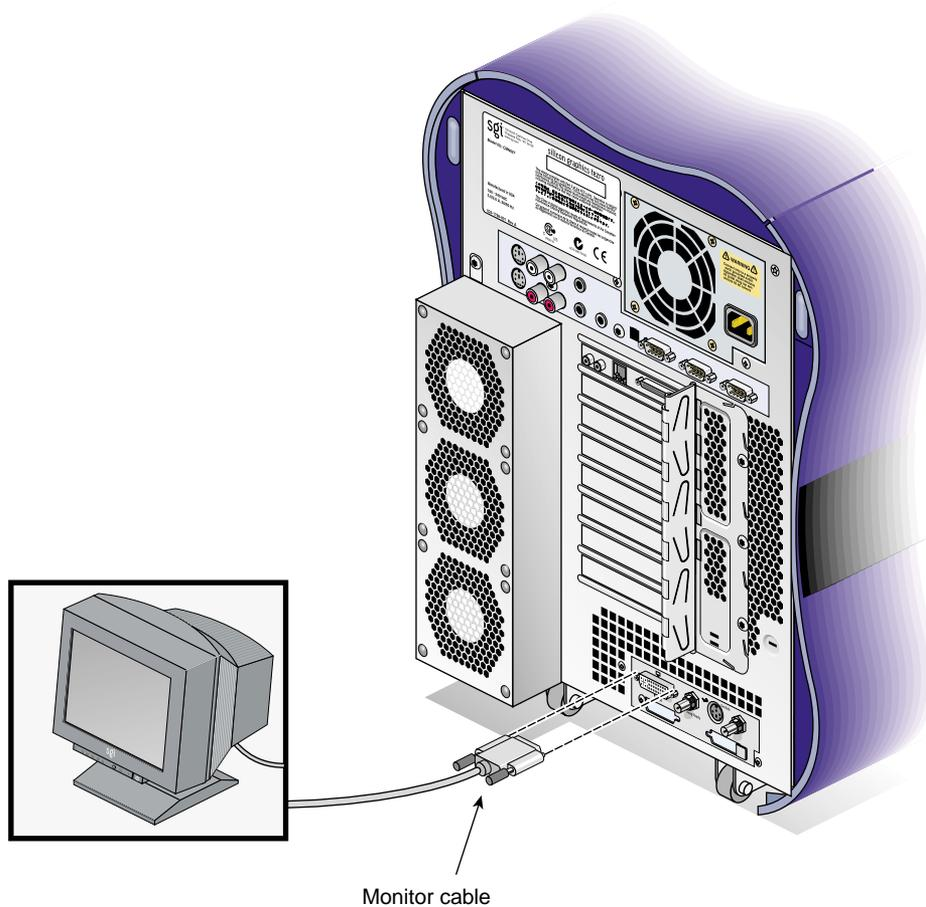

Figure 1-7 Connecting the Monitor Cable
3. Connect the monitor cable, as follows (see Figure 1-7):